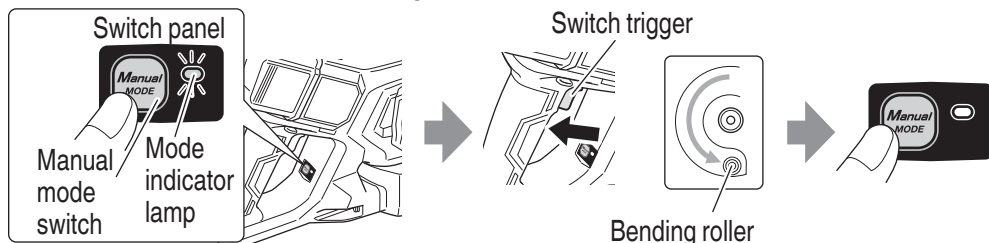

Fig. 18
- (1) Align the setting dial on “RETURN”.
- (2) Pulling the switch again will activate reverse-rotation mode. When the tool begins returning, it will return to its original position when the switch is released.
- Press the Manual Mode switch (Fig. 18)